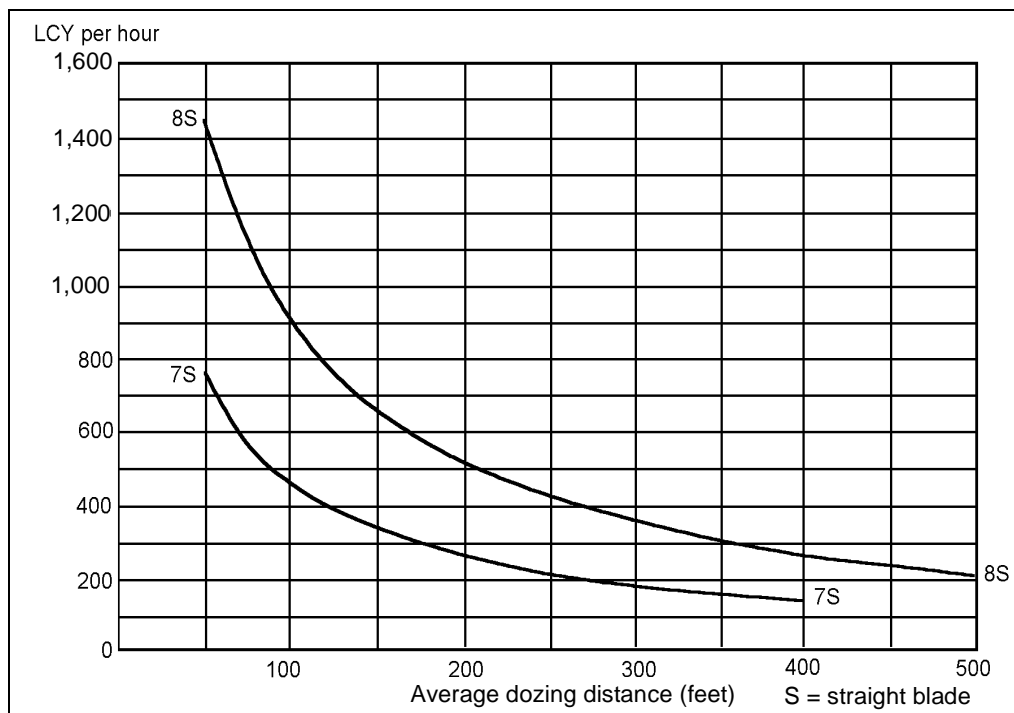

Figure 2-14. Estimated Maximum Production for D7 or D8 Tractors With Universal or Straight Blades
- Use *Figure 2-14* to determine the estimated maximum production for D7 or D8 tractors with universal or straight blades.
Step 1. Uncorrected maximum production = 300 LCY per hour (*Figure 2-14, page 2-19*)